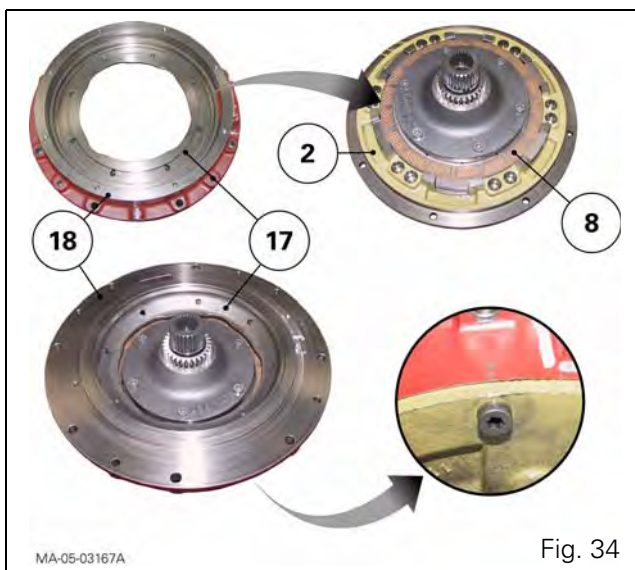

Fig. 34
59. Replace the last disc (8) of brake L. Fit the brake piston (17) with new, oiled "O" rings (23) (24), in the housing (18) (Fig. 34).
60. Refit the housing (18) on the cover (2). Fit the cover screws smeared with Loctite 242. Tighten to a torque of 29-37 Nm (Fig. 34).